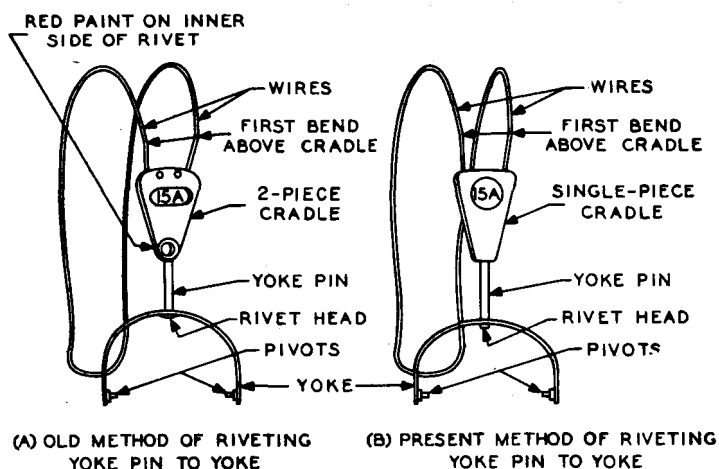

Fig. 5 - 15A Headbands
7.06 Replace 15A headbands of the 2-piece cradle construction if the lower rivet holding the two halves of the cradle together is not painted red on the inner end (see Fig. 5).